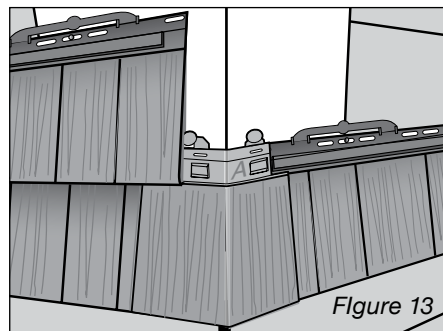

Figure 13
2. Once the panel has been fastened, hook the corner "A" over the siding, making sure the corner piece is locked into the starter strip (Figure 13).